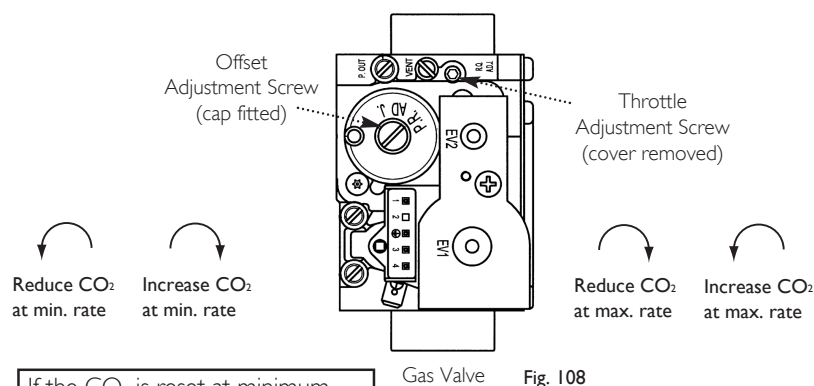

Fig. 108
8. It is possible to alter the CO₂ by adjustment of the gas valve. Remove the plastic cover from the Throttle Adjustment Screw. At maximum rate the Throttle Adjustment Screw should be turned, using a suitable hexagon key, until the correct reading is obtained (Fig. 108). Turning clockwise will reduce the CO₂. Anticlockwise will increase the CO₂.
10. With the boiler on minimum, the 'Min. Rate' adjustment screw must be altered, using a suitable hexagon key, after removing the cap (Fig. 108). If the CO₂ is reset at either boiler rate it must be rechecked at the other rate and also adjusted if required.